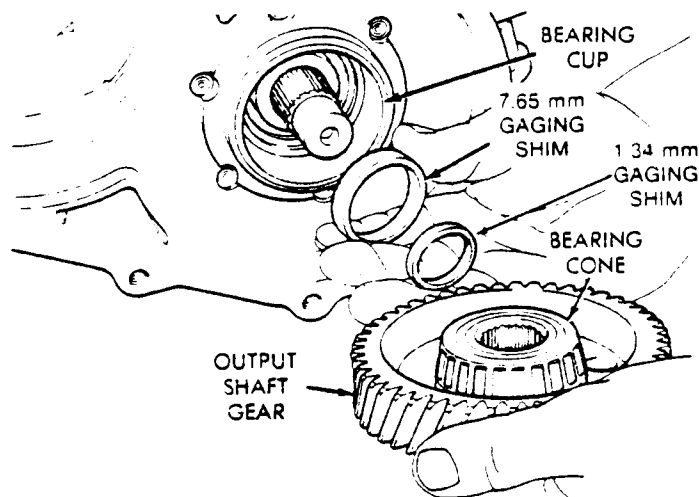

FIGURE 5
2. With output shaft gear removed, install a 7.65 mm (.301 inch) gaging shim on the planetary rear annulus gear hub and a 1.34 mm (.053 inch) gaging shim on the output shaft as shown in Figure 5, using lubriplate to hold the shims in place. The 7.65 mm shim has a larger inside diameter and must be installed first. The 1.34 mm shim pilots on the output shaft.